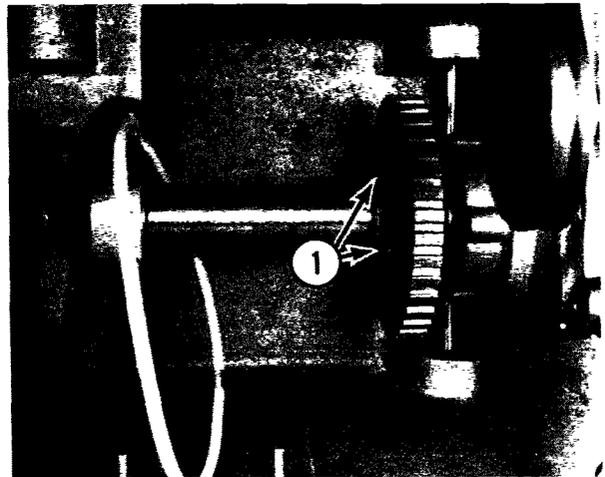

Fig. 2-26
- (9) Loosen the set screws (1, Fig. 2-26) on the collar of the large gear pulley.
- (10) Slide the gear pulley off the key and remove the key from the shaft.